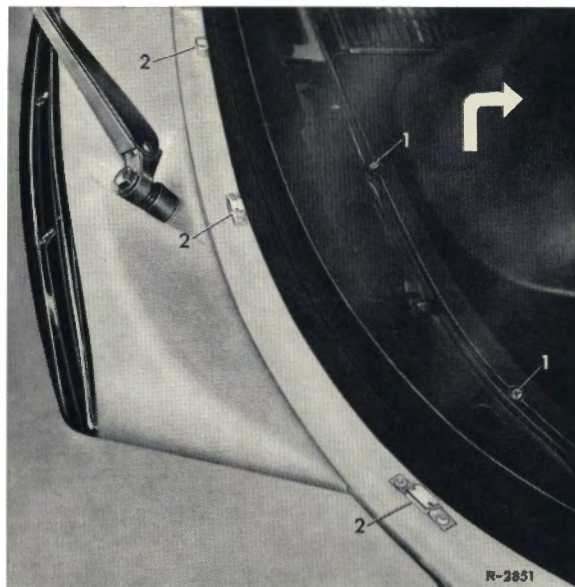

Fig. 68-3/1
2. Slide a plastic or wooden wedge between the rubber seal and the garnish molding and press the garnish molding out of the clips (2) **toward the front** by tilting the wedge (see Fig. 68-3/1).
2. Remove the self-tapping screws (1) for the attachment of the padding (Fig. 68-3/1).